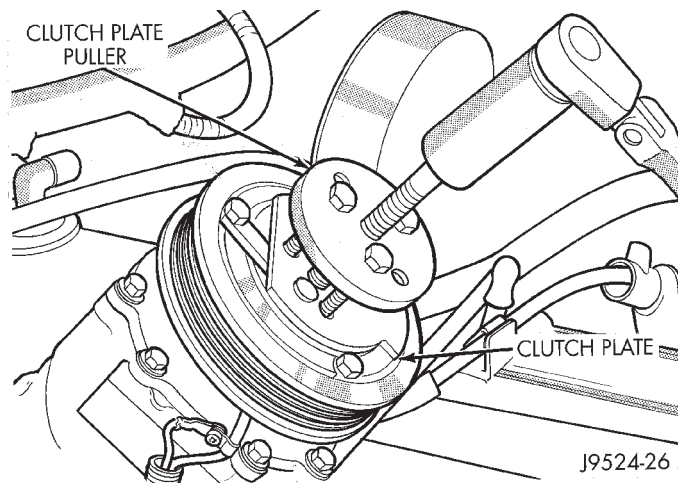

Fig. 5 Clutch Plate Puller
(4) Remove clutch plate with puller 6461 (Fig. 5).